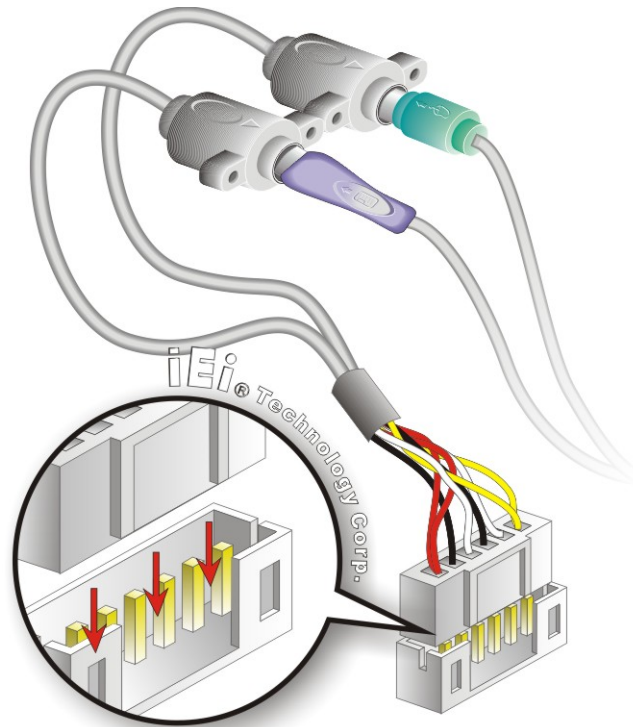

Figure 4-16: Keyboard/mouse Y-cable Connection
Step 2: Align the connectors. Correctly align pin 1 on the cable connector with pin 1 on the WAFER-CV-D25502/N26002 keyboard/mouse connector. See **Figure 4-16**.
Step 3: Insert the cable connectors Once the cable connector is properly aligned with the keyboard/mouse connector on the WAFER-CV-D25502/N26002, connect the cable connector to the on-board connector. See **Figure 4-16**.